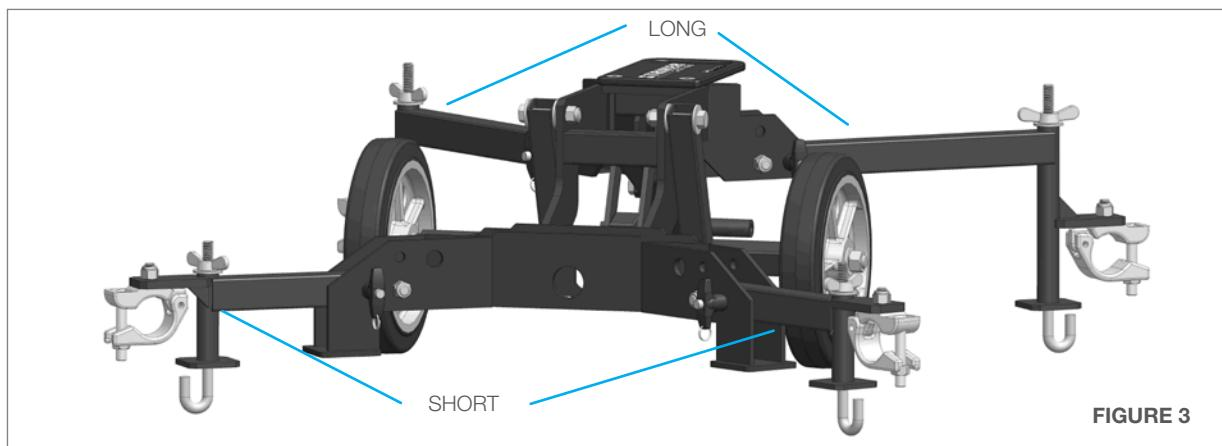

FIGURE 3
3. Tighten all the way with two 3/4" Wrenches, then back out approximately 1/2 turn to allow leg to pivot. (**Figure 3**)
3. Confirm that the Short and Long Downrigger Legs are Installed where shown in (**Figure 3**).
3. Positioning the Vertical Rail Assembly in the horizontal position makes it easier to install or remove the Carriage Assembly. (**Figure 3**)
3. Orient the Release Levers away from the Carriage Assembly. **(Figure 3, 4)**
2. Fasten High Pressure Hose to BCK-20K Barracuda (**Figure 3**). The hose end is a 9/16" medium pressure connection, with a modified gland nut and standard collar.